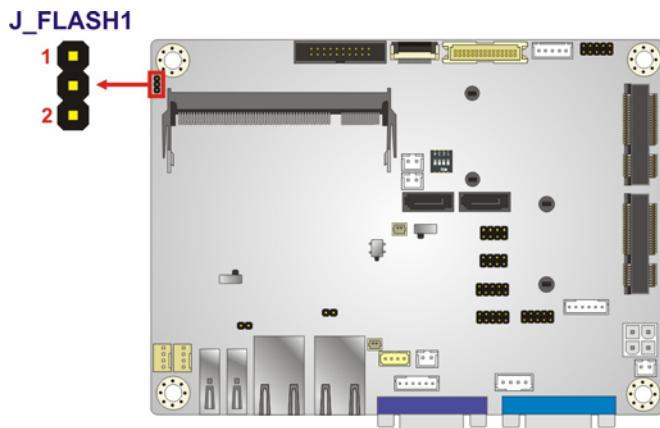

Figure 4-13: Flash Descriptor Security Override Jumper Location
**Jumper Location:** See Figure 4-13